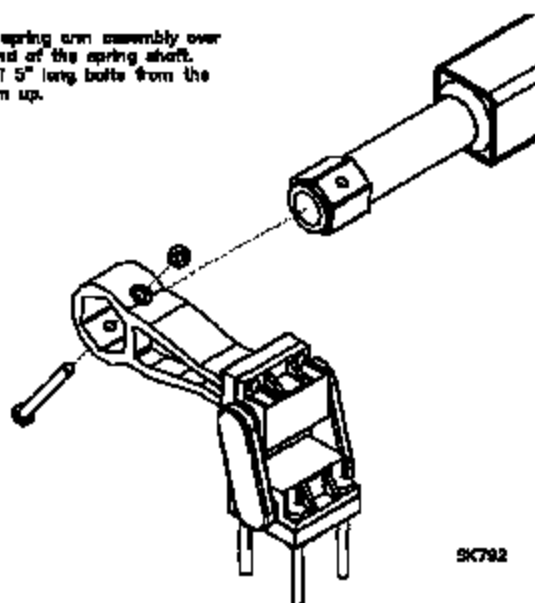

FIGURE 2
5. Assemble Springs, Arms and Shackles. Slide the arm/shackle assemblies (5) onto the hex adapters of the main springs (4) (Figure 2) with the center pins and shackles pointing downward. Insert the four $\frac{1}{2}$ "-20 x 5" Gr. 8 bolts (10) through the arm and hex holes and secure them with $\frac{1}{2}$ " nuts (15) torqued to approximately 100 ft-lbs.
6. Attach Spring/Arm/Shackle Assemblies. Place the Axle Spacer Blocks (11) on the perch on the axle with the pin of the block inserted in the hole in the axle perch. The spacer block's thicker edge must be toward the front of the vehicle. Remove the loose 9/16" nuts and washers (28 & 29) from the 9/16" x 6" long bolts (26) of the shackle assemblies. DO NOT